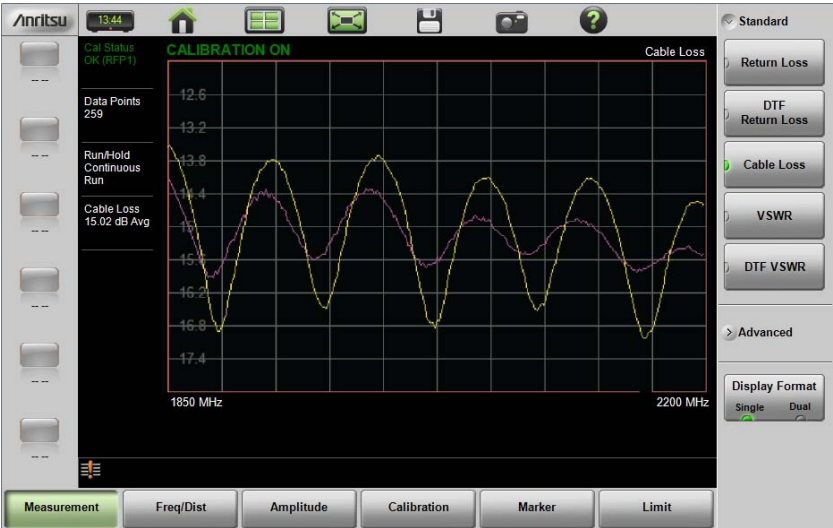

Figure 6-10. Recalled Measurement and Active Trace
6. Figure 6-10 illustrates a recalled measurement and active trace.
The recalled measurement is the purple trace and is overlaid on the current active (yellow) trace. In Figure 6-10 the recalled measurement is used to compare the cable loss of two different RF cables. Recalled measurements are automatically saved to trace memory for use in trace match functions. To see the recalled measurement and the current measurement simultaneously, select **Trace & Memory** in the Trace Display submenu. Refer to “Trace” on page 3-41.